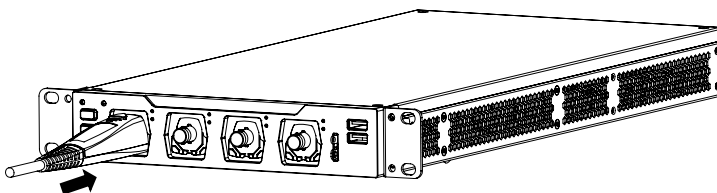

Figure 7 To Connect the Active Probe
2. Connect the other end of the preamp to an analog channel input terminal of the oscilloscope on the front panel, as shown in Figure 7. Note that you should push the probe to the end to ensure that it is tightly connected.